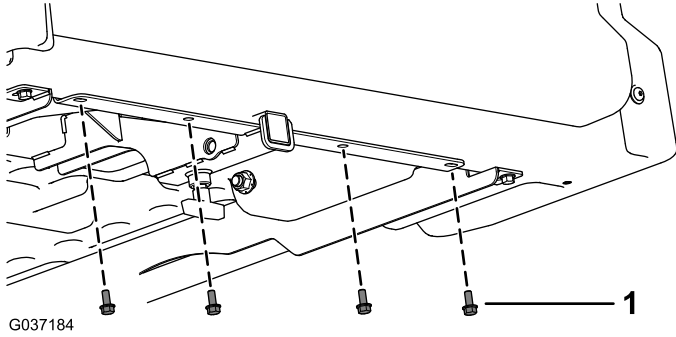

Figure 2
1. Remove the 4 existing hex-flange screws (5/16 x 3/4 inch) from the bottom of the cargo bed (Figure 2).